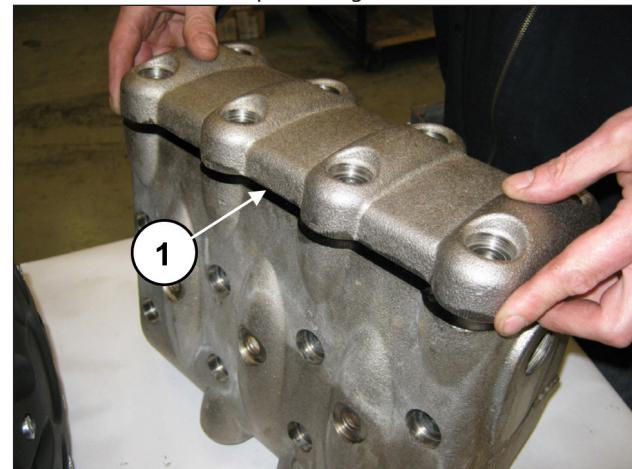
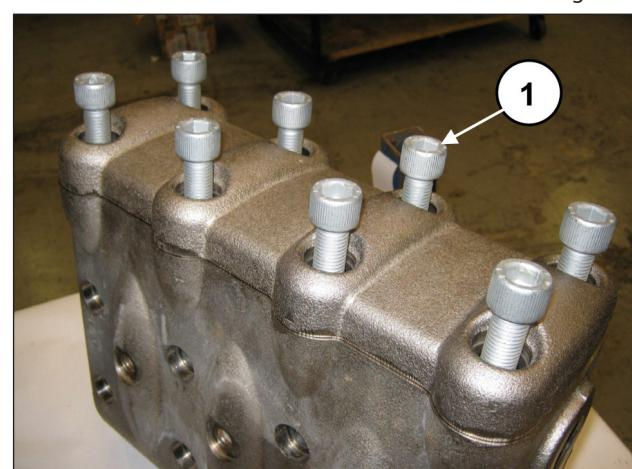

Fig. 128
Fig. 129
After having completed assembly of the valve units and the valve plug, apply the valve cover (pos. ①, Fig. 128) and screw in the 8 M16x55 screws (pos. ①, Fig. 129).